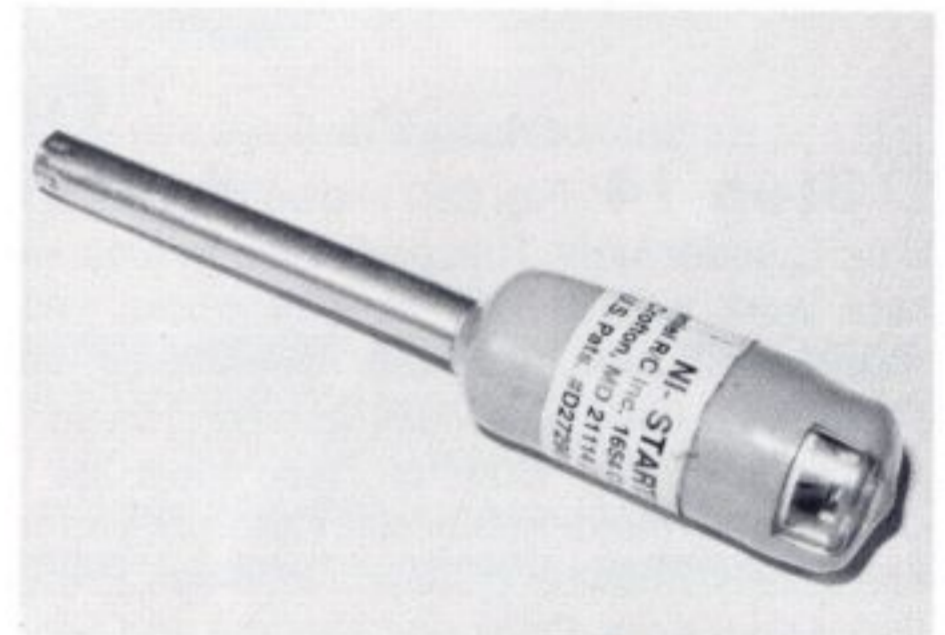
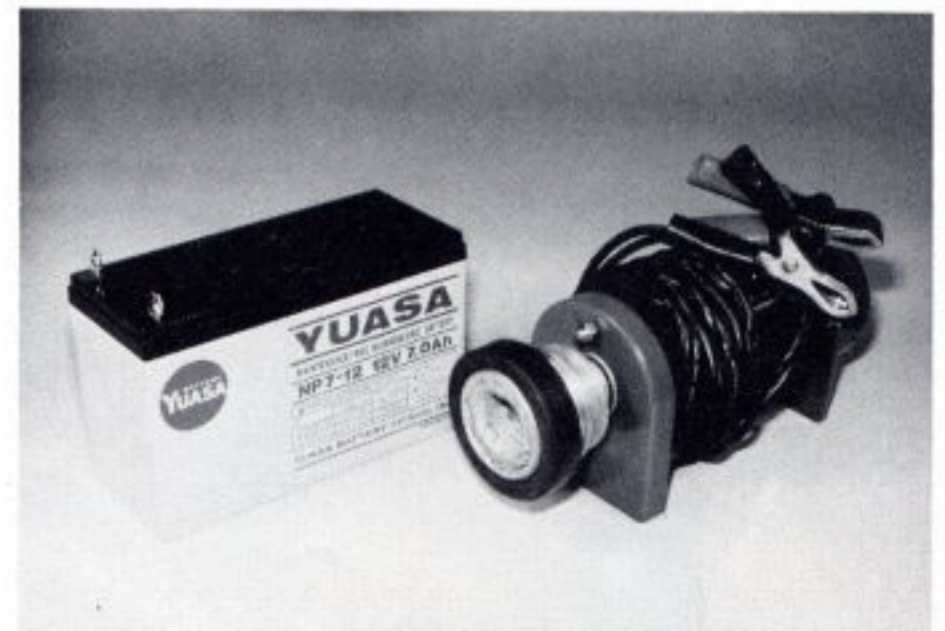

Fig. 298A
Fig. 298B
Step 13 Figs. 298A-298D show what each of the needed items or accessories normally look like. They are labeled to help you identify what each item is. Their use is described in the following instructions if you are unfamiliar with them. Fig. 298A shows a long reach glow plug igniter, Ni-cad style. Fig. 298B show a hand starter motor with car type rubber donut (Associated #SP-26) and a 12 volt battery used to run it. Fig. 298C (next page) shows an